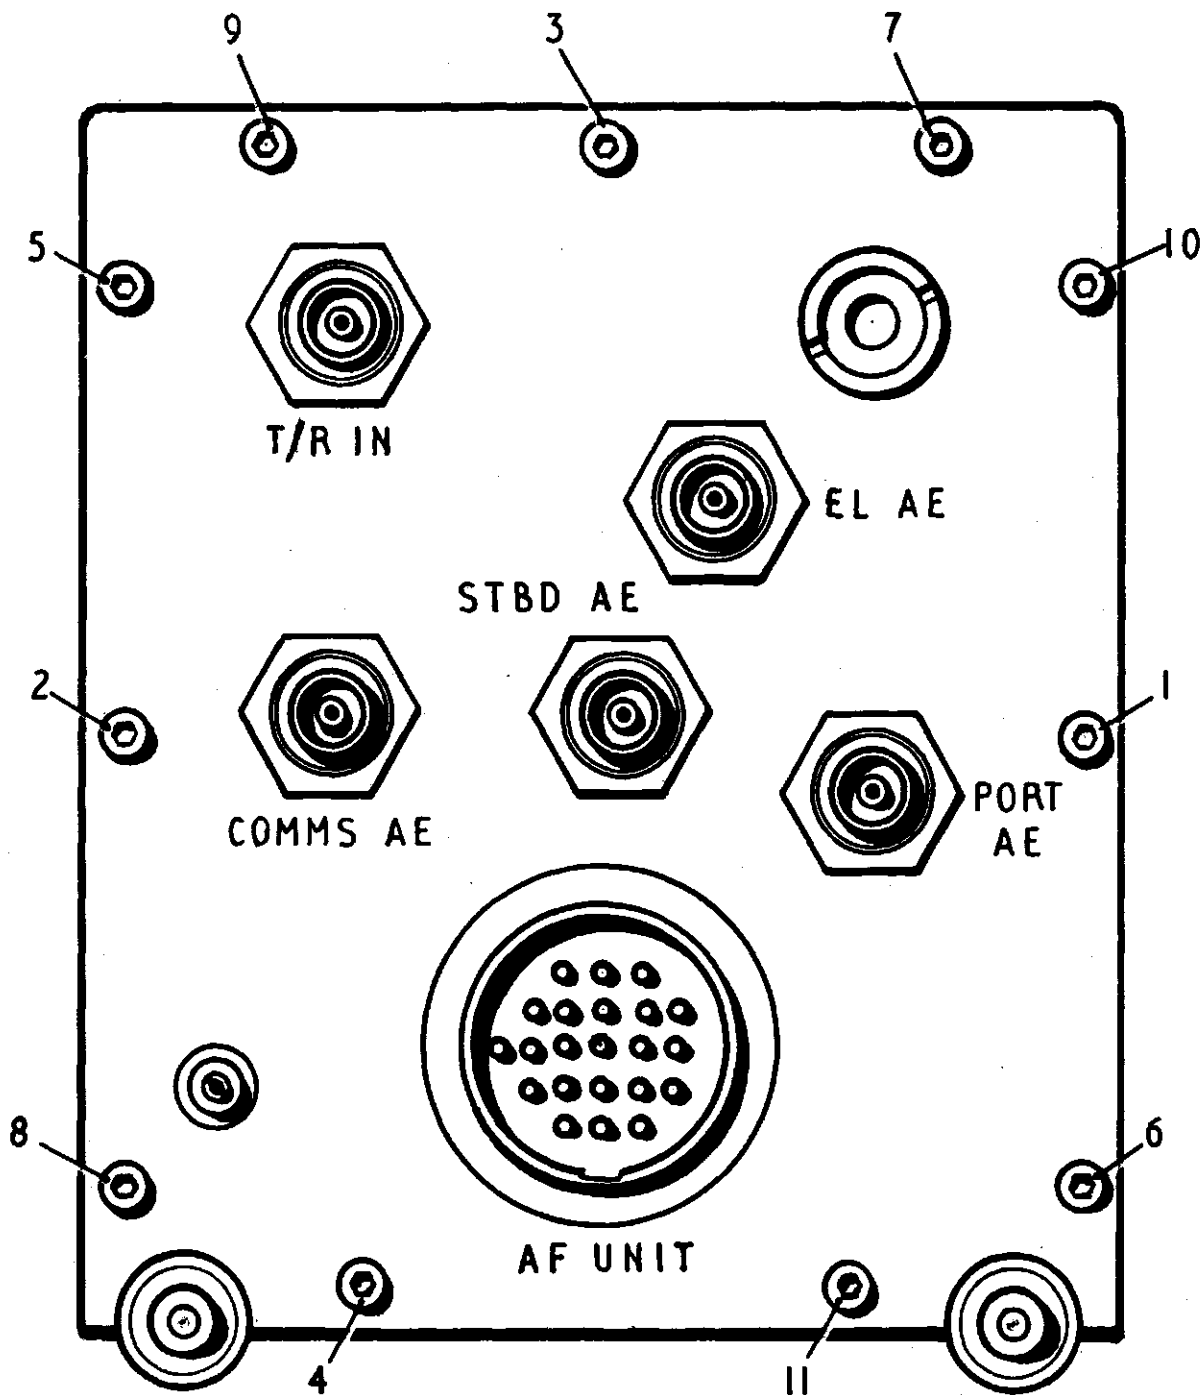

Fig. 1 Order of loosening and tightening securing screws Fig. 1
3. Before removing the cover from the R.F. Unit Type 11037, take off the cap from the Schrader valve on the front panel and release the internal pressure. Using a hexagon wrench, 5120-99-942-9651, slacken each of the eleven socket head screws on the front panel a half-turn at a time, in the order shown in fig. 1, until all are fully released. Remove the cover and sealing gasket from the unit.